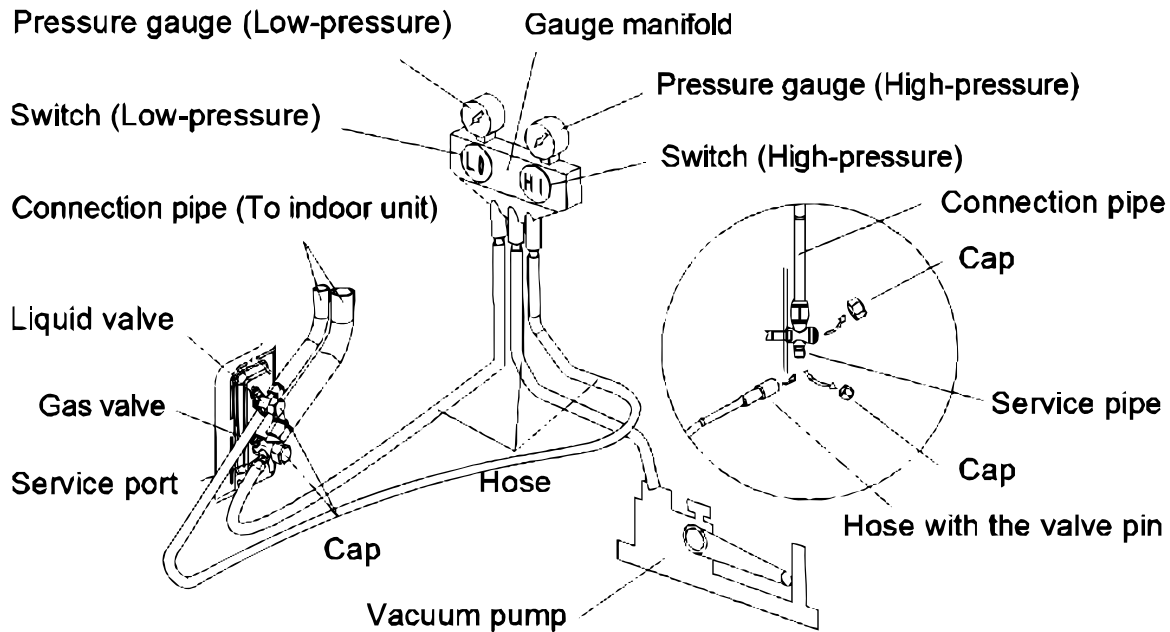

Fig. 2.20
1. Screw on the flare nut of the flared connecting pipe onto the outdoor unit valve. Refer to **Fig. 2.19** & **Fig. 2.20**, using the torque values in the table below.
Refer to **Fig. 2.20**